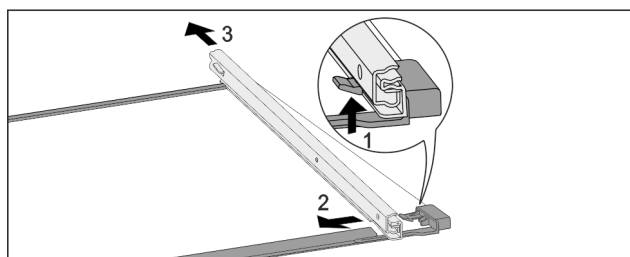

Fig. 180 Glass shelf with rails
- Push up front click-in hooks. Fig. 180 (1)
- Slide pull-out rails to the side Fig. 180 (2) and backwards Fig. 180 (3).